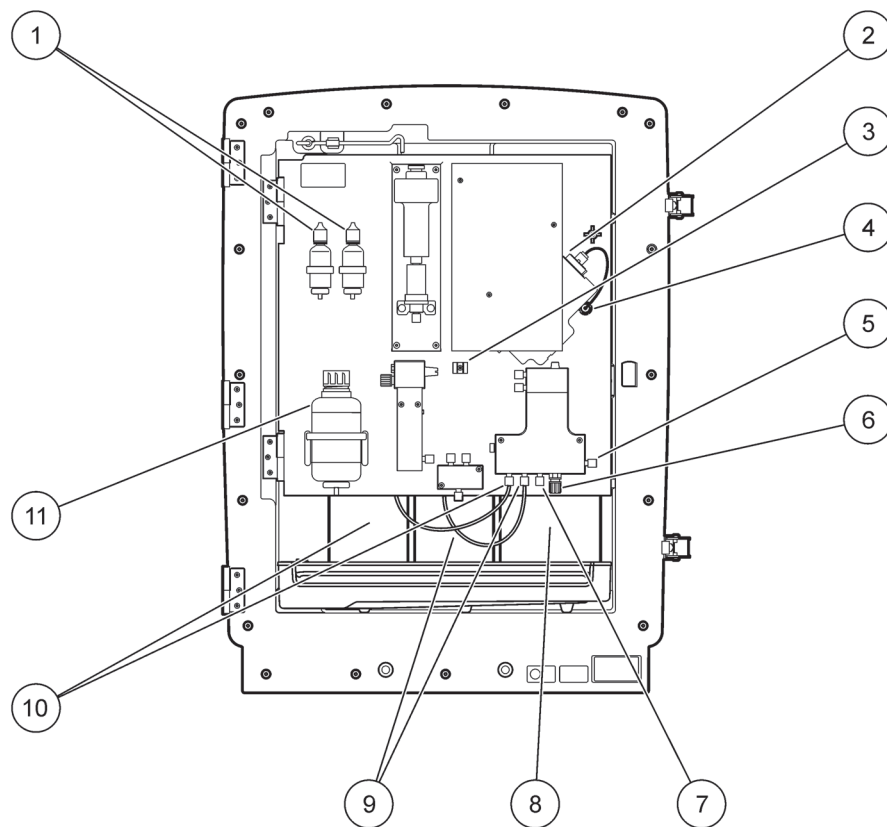

Figure 17 Chemicals and reagents in the AMTAX sc (Refer to Table 3, page 30 for more information)
1. Place the reagent containers in the instrument (Figure 17).